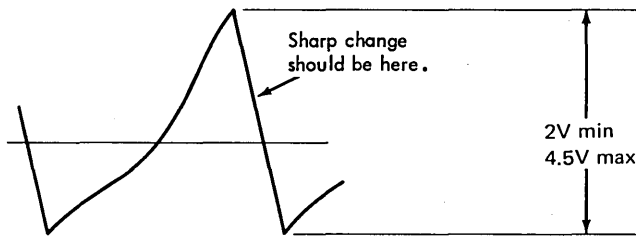

Figure 4-75. E1 Magnetic Emitter Waveform
- c. With the emitter wheel operating continuously at low speed, the waveform must appear as shown in Figure 4-75 with an output of 2 to 4.5V peak to peak. Refer to step 2.
4. If the observed waveform appears as shown in Figure 4-75, reconnect the lead that was on the scope probe to terminal 8, and the lead that was on the scope ground to terminal 9. If, however, the waveform has a rapid rise to the positive pulse and a slow drop to the negative pulse, reverse the leads when reconnecting them to the terminal block.